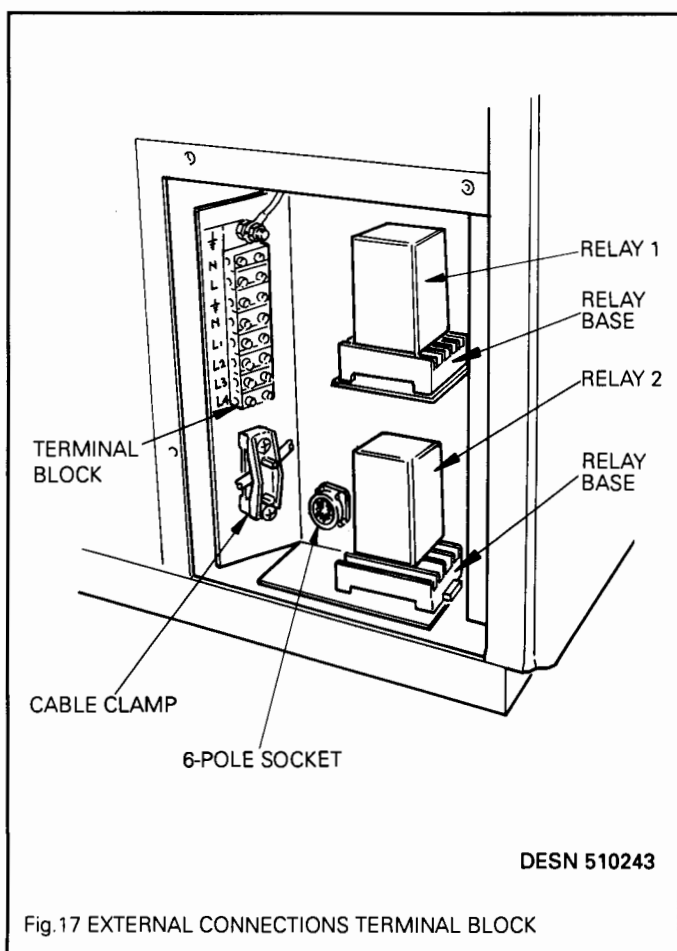

Fig.17 EXTERNAL CONNECTIONS TERMINAL BLOCK
(see fig.17 for terminal block and RELAY locations). The main line voltage to the appliance is applied via terminal 'L' on terminal block. Basically, the COOKER and BOILER are connected in parallel with each other and in series with the PUMP OVERRUN thermostat, through RELAY (2).